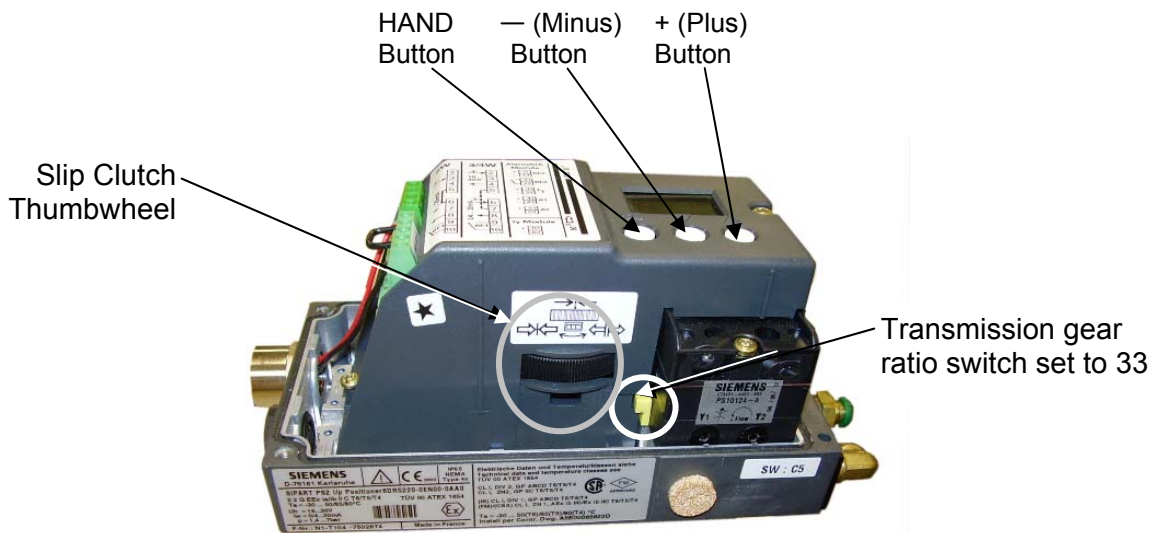

FIGURE 10 Set-up Buttons (PS2 Cover Removed)
8. Press and hold [HAND] button to enter configuration mode. When display changes, release button. See Figure 10.
15. Adjust slip clutch until display reads 50, +/-3.0. See Figure 10 for slip clutch location.